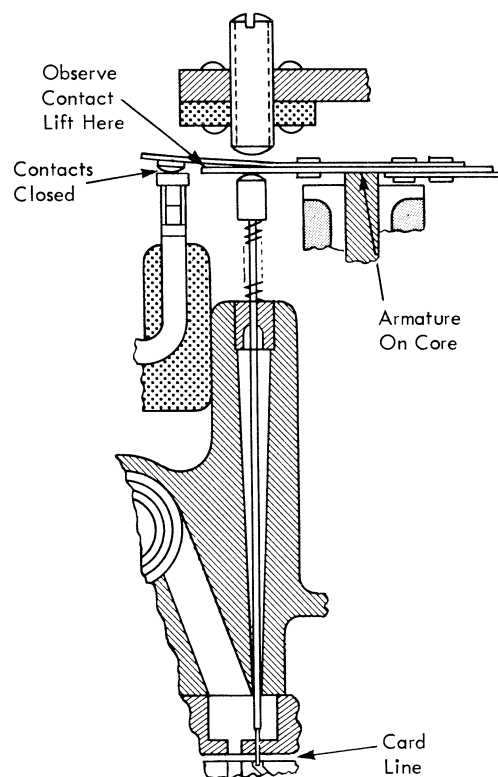

Figure 12-10. Pin-Sense Unit — Hole Sensed
11. Remove the card. Turn the power on momentarily. The contact-spring assembly should have a visual air gap from the armature when the armature is held on the core. This ensures correct wiping action (Figure 12-10). Relieve the tension in the contact spring if the air gap is not present.